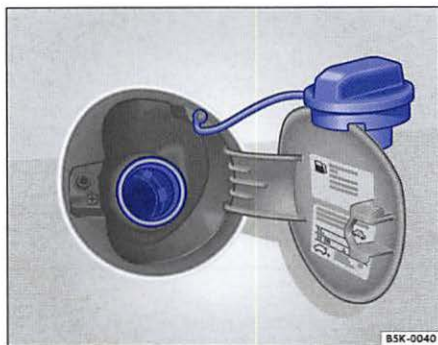

Fig. 125 Fuel cap placed on the open fuel filler flap.
- Unscrew the fuel filler cap counterclockwise and remove. Place the cap on the top of the fuel filler flap $\Rightarrow$ fig. 125.
The correct fuel grade for your vehicle is listed on a sticker on the inside of the fuel filler flap $\Rightarrow$ fig. 125.
The correct fuel grade for your engine is shown on a sticker located on the inside of the fuel filler flap ⇒ fig. 125.